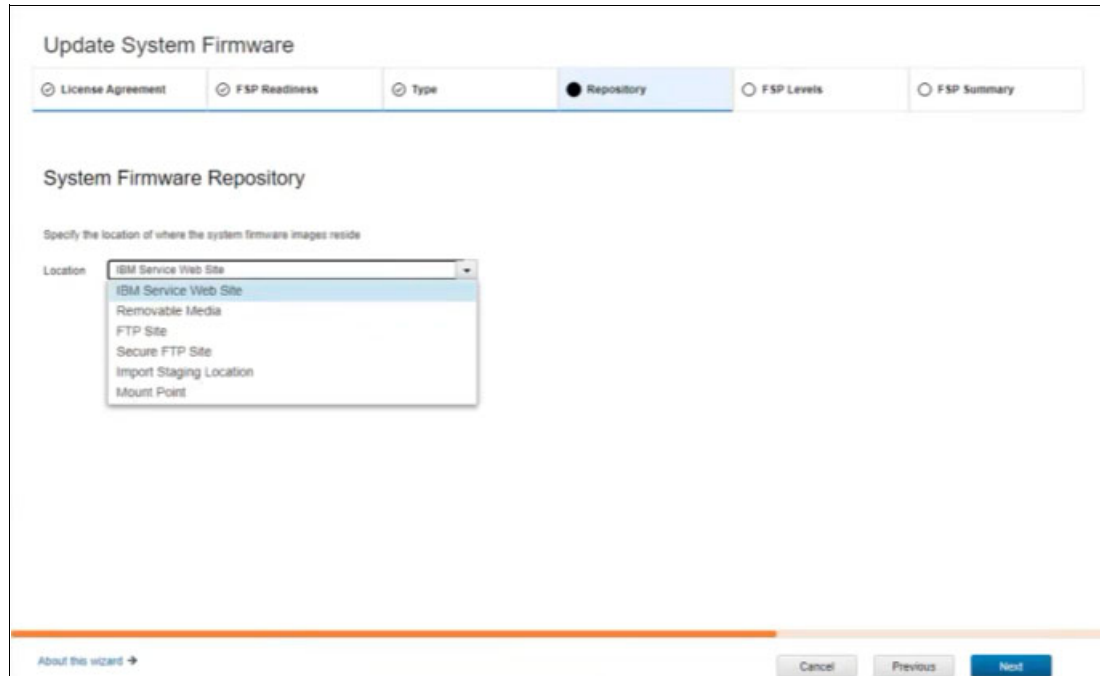

Figure 2-40 System Firmware Repository window
5. The System Firmware Repository window opens (see Figure 2-40). Select from one of the following locations for the repository: